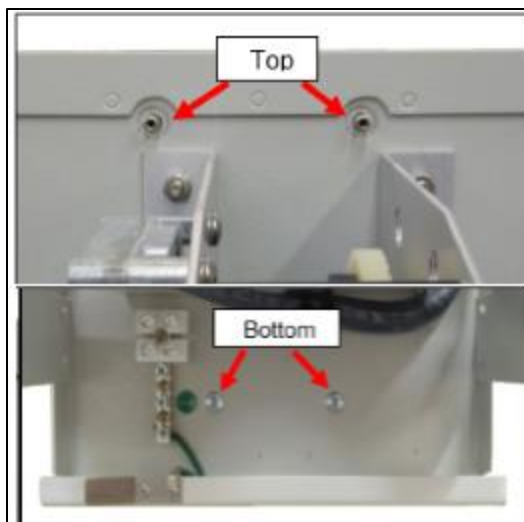

Figure 6C
1. Using four #10 screws and lock washers, attach the EVSE to the side of the pole using the pole's mounting holes. Ensure the Pole's and EVSE's conduit access holes align. Refer to Figure 6C for mounting-screw hole locations inside the EVSE. Do not fully tighten the screws.